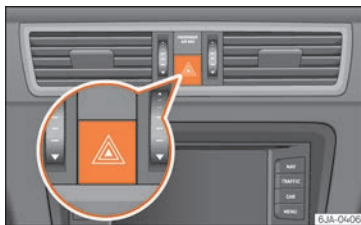

Fig. 133 Instrument panel: switch for hazard warning lights.
- Press the button  **Fig. 133** to switch the hazard warning lights on or off.